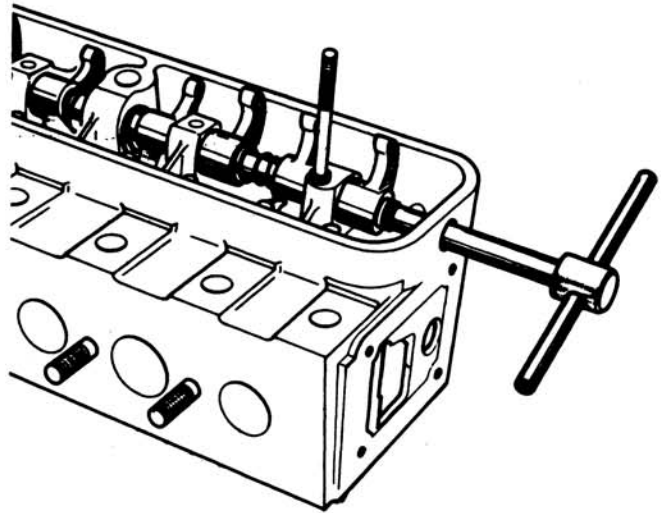

FIGURE 2. WITHDRAWING ROCKER ARM SHAFTS
4. Using a puller, draw out the rocker shafts (Figure 2).